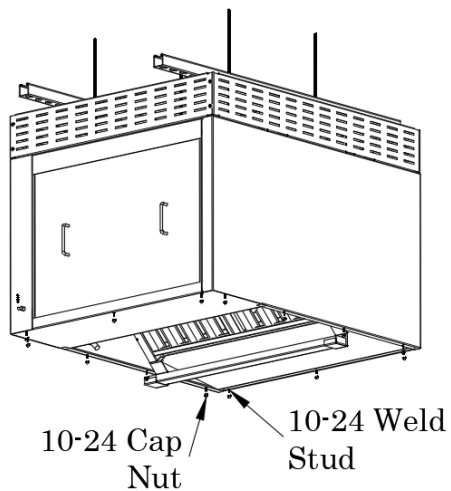
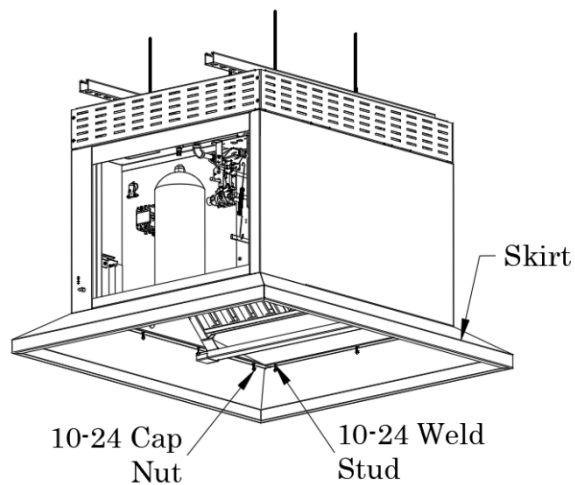

Figure 2.5
Figure 2.6
- Remove 10-24 cap nuts from 10-24 weld stud (Figure 2.5). Align skirt with 10-24 weld studs. Reattach the 10-24 cap nuts (Figure 2.6).